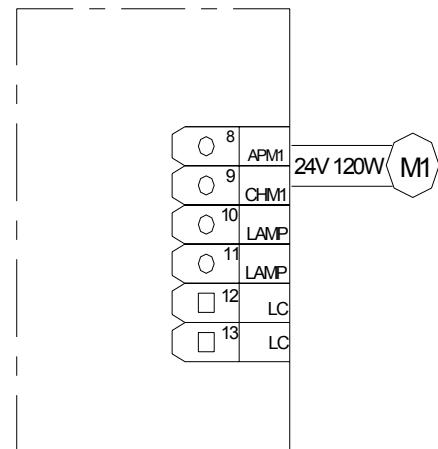

**Fig. 7**
**Adjusting the arm:** the standard opening of the barrier is in an anticlockwise direction as in (Fig. 7).